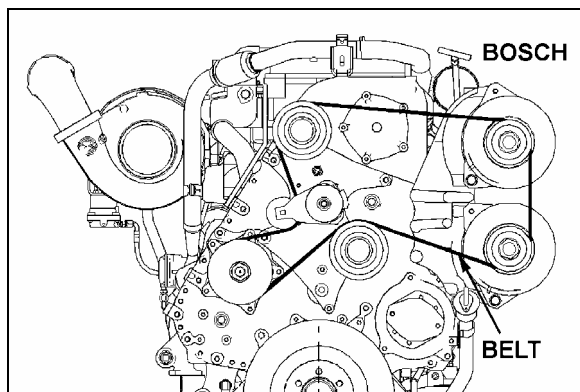

FIGURE 20: ALTERNATOR DRIVE BELT
1. Insert a 3/4" socket drive into the tensioning arm opening (Fig. 20).